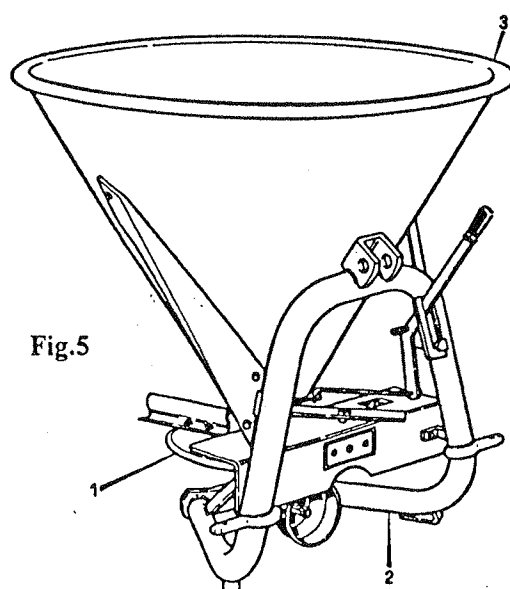

Fig.5
(vedi fig.5)
The machine essentially consists of: (see fig.5)
- 1- Fix the gear-box (1) to the frame(t).
- 2- Mount the spreading disc (2) on the gear box (1) and fix it by the proper pin.
- 3- Fix the guard (3) to the frame (t).
- 4- Fix the two side supports (4) to the frame.
- 5- Introduce the snap ring, the washer the dosing-disc and the adjustment disc in the gear box (see fig.5).
- 6- Fix the hopper (6) to the side supports (4) and to the frame.
- 7- Introduce the agitator bush guide (7) in the unloading hole.
- 8- Fix the agitator (8) on the shaft of the unit.
- 9- Mount the hopper reinforcement bar (9) and fix it together with the side supports (4) by the fit screwstt.
- 11- Mount the adjustment lever (11) and connect the flow adjustment bars to the dosing disc (the one with 2 holes).